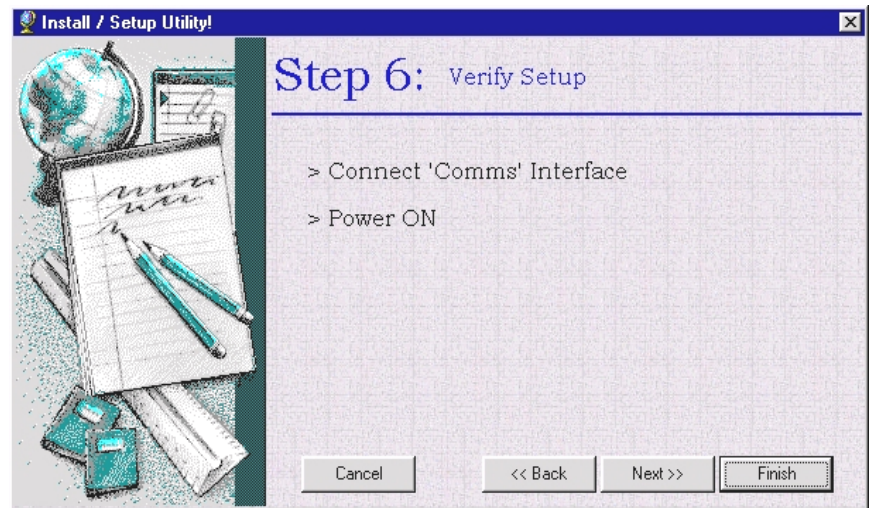

Fig. 5.21
Step 6 is a reminder to the installer to have power applied to transceiver and have the serial interface connected (see fig. 5.21).